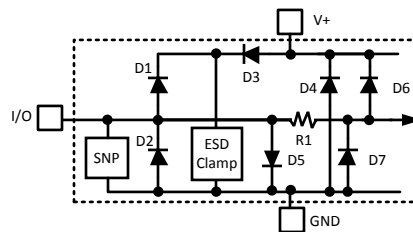

Figure 3. ESD Protection Input Structure
- (1) Absolute Maximum Ratings indicate limits beyond which damage to the device may occur. DC and AC electrical specifications do not apply when operating the device beyond its rated operating conditions.
- (2) When the input voltage (V_I) at any pin exceeds the power supplies ($V_I < GND$ or $V_I > V_{DD}$), the current at that pin should be limited to 5 mA. Parasitic components and or ESD protection circuitry are shown in Figure 3 below for the LM95221's pins. The nominal breakdown voltage of D4 is 6.5 V. Care should be taken not to forward bias the parasitic diode, D1, present on pins: D1+, D2+, D1-, D2-. Doing so by more than 50 mV may corrupt the temperature measurements.
- (3) See the URL "<http://www.ti.com/packaging/>" for other recommendations and methods of soldering surface mount devices.
- (4) Human body model, 100pF discharged through a 1.5k Ω resistor. Machine model, 200pF discharged directly into each pin.